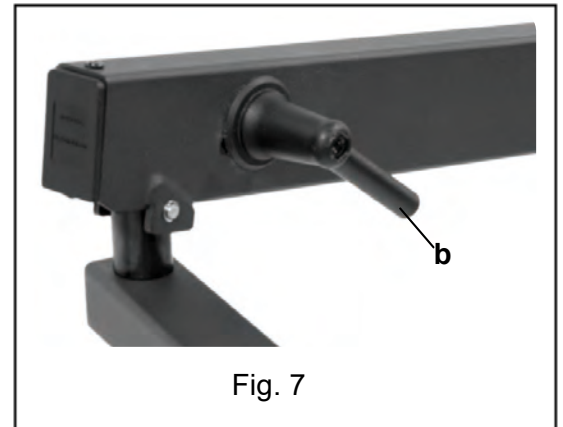

Fig. 7
3. Unscrew the fastening lever shown as **(b)** in Fig. 7.